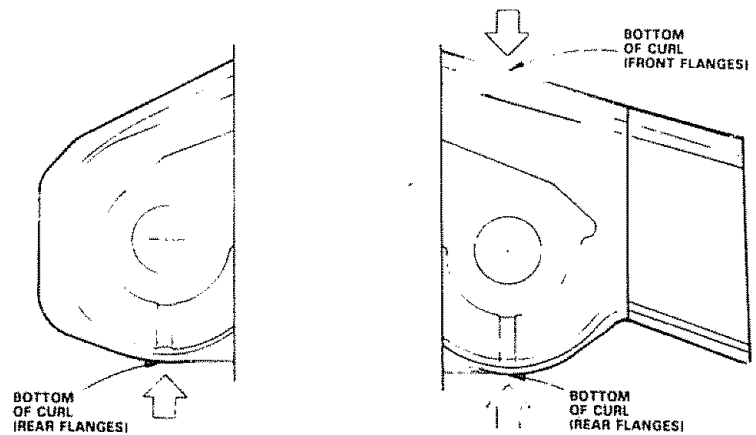

FIGURE 45
- Use a ruler to make sure bottom of curl at rear of mower deck are the same height from the ground on each side (Fig. 45).
Move attachment to full "UP" position. After leveling side to side, measure bottom of curl at FRONT AND REAR OF MOWER. The bottom of curl at the R.H. front flanges should measure 3/4" lower than at the R.H. REAR flange (Fig. 45). If adjustment is required follow the procedure below.